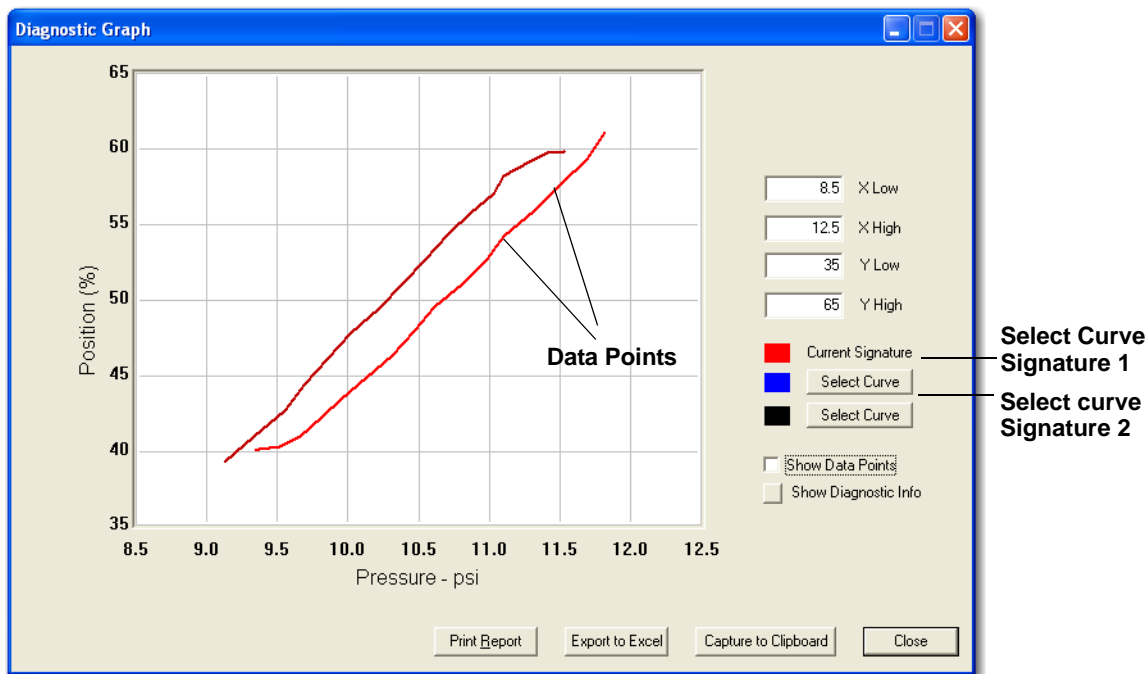

Figure 117 Standard Actuator Signature Diagnostics Graph
5. Click **Continue** and Figure 117 appears.
Select **Show Data Points** and the Diagnostic Graph displays a tick mark on the graph for all available data points as shown in Figure 117.
1. Click **Select Curve** (Figure 117 on page 139).